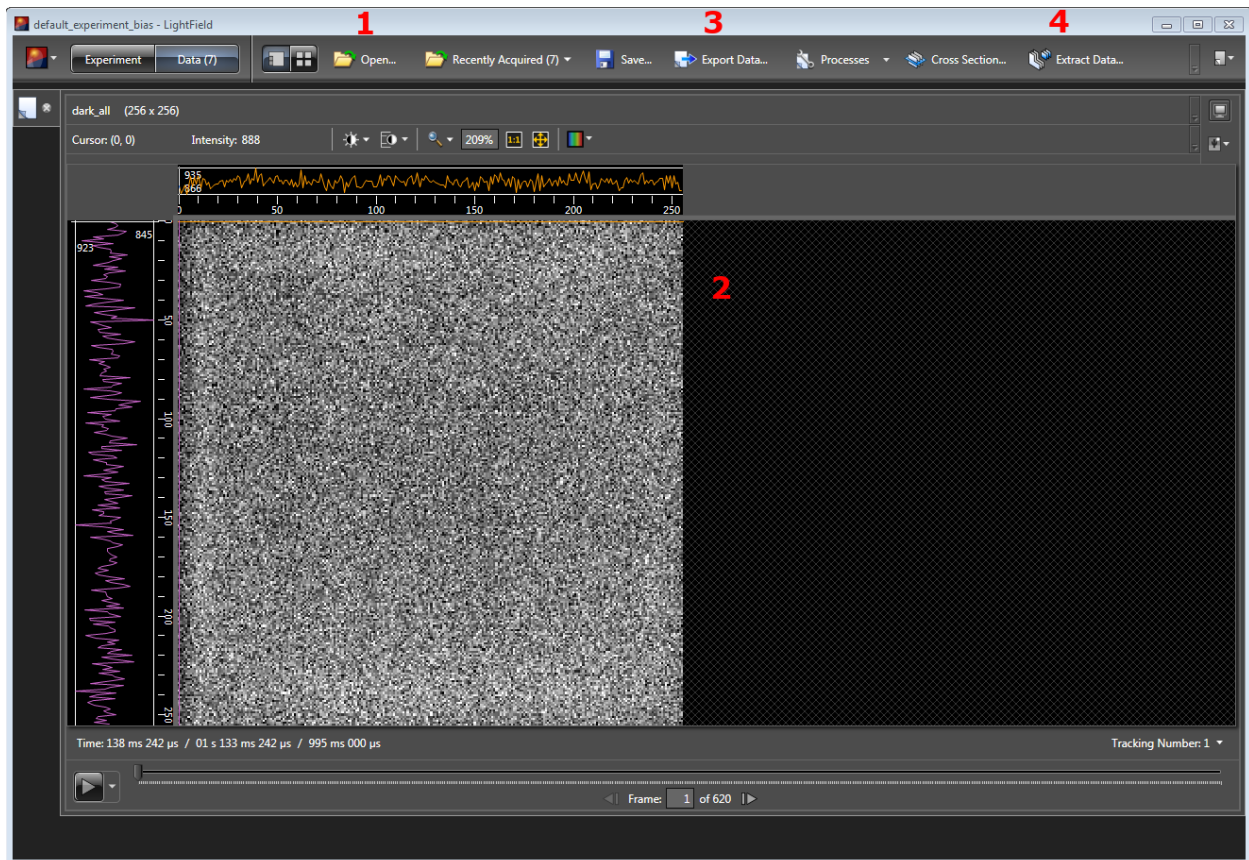

Figure 6: *LightField* data manipulation interface.
Figure 6 displays the options in the data manipulation interface:
7. Convert all .spe files into .fits files for data reduction using the “Export Data” option in *LightField* (see Fig. 6, bullet 3). Add the current day’s directory to the window to the left, and check “Include all sub-directories” before finishing. Transfer your night’s folder from C: to D:. You can also transfer data to a remote destination using the *WinSCP* program on the desktop.